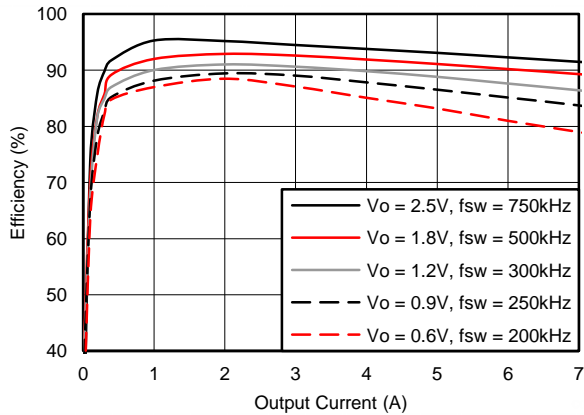
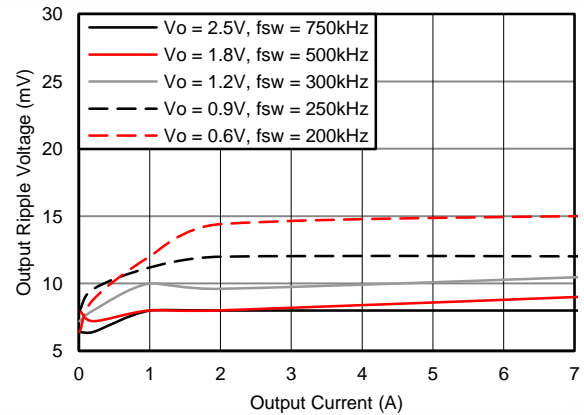
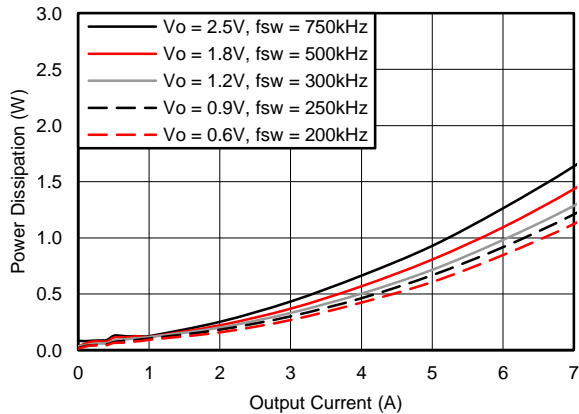

Figure 10. Efficiency vs. Output Current
Figure 11. Voltage Ripple vs. Output Current
Figure 12. Power Dissipation vs. Output Current
- (1) The electrical characteristic data has been developed from actual products tested at 25°C. This data is considered typical for the converter. Applies to Figure 10, Figure 11, and Figure 12.